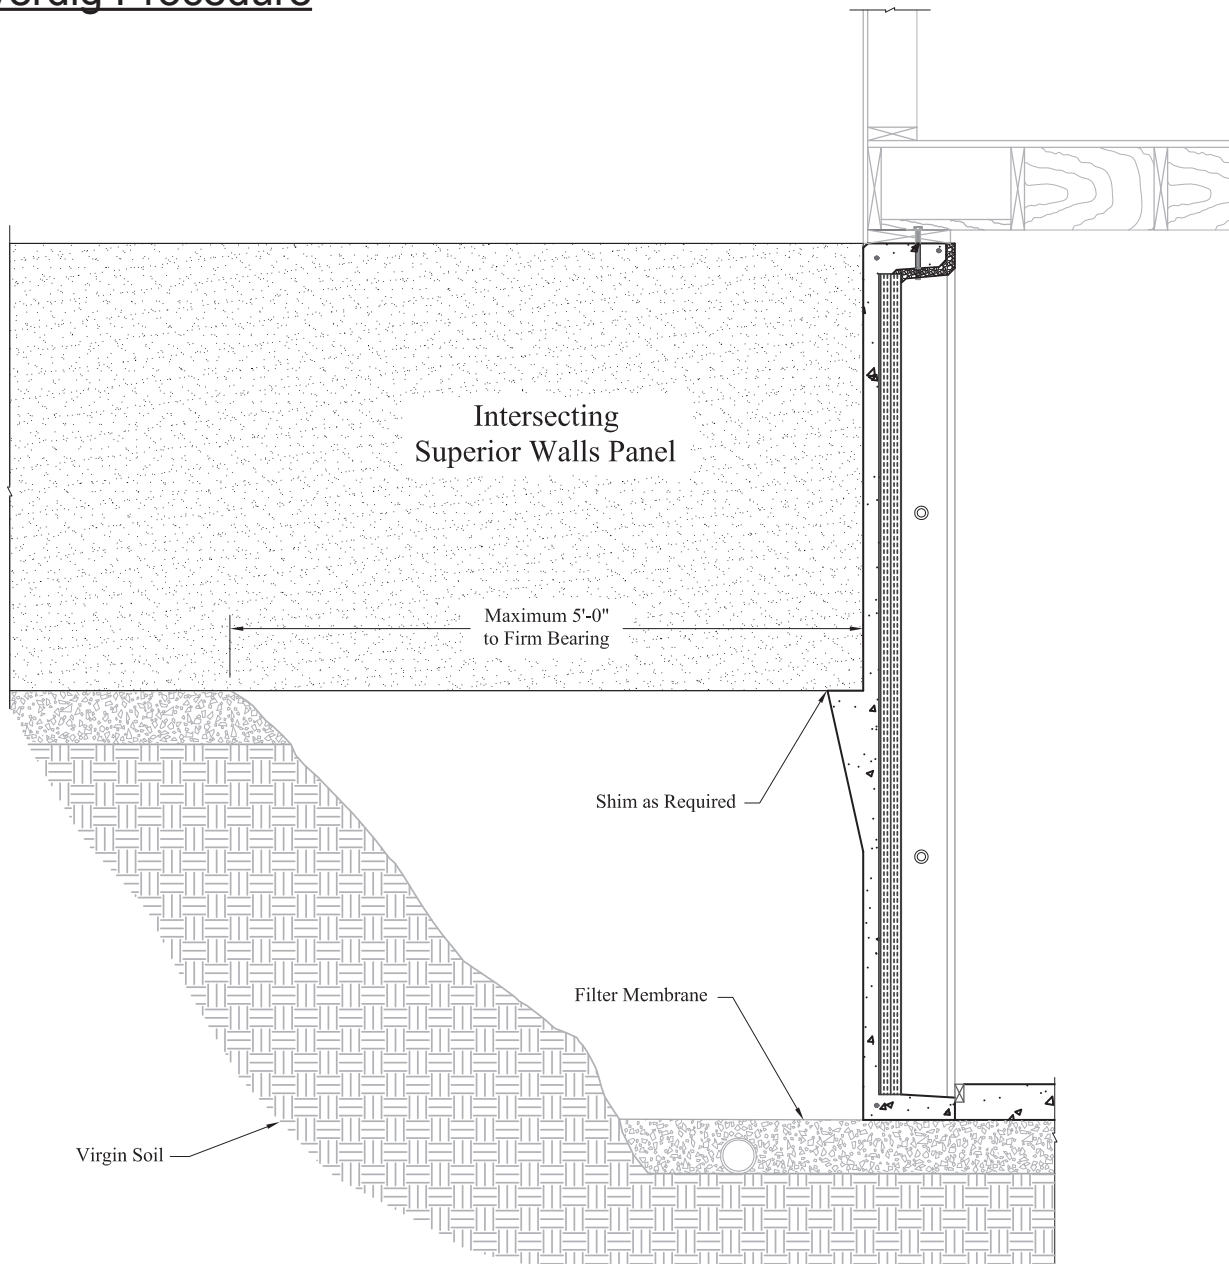

Figure 4
- When a wall such as a garage wall or crawl space wall intersects the basement wall and rests on a precast support ledge or knee wall, the overdig must not exceed 5'-0". (See Figure 4.)